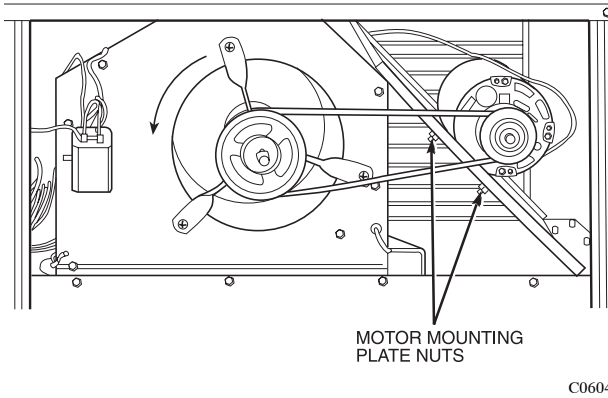

Fig. 41 – Belt Drive Motor Mounting
2. Loosen the belt by loosening the fan motor mounting nuts. (See Fig. 41.)